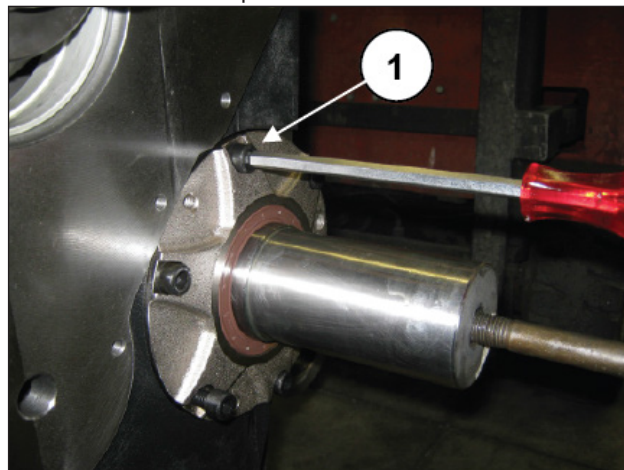
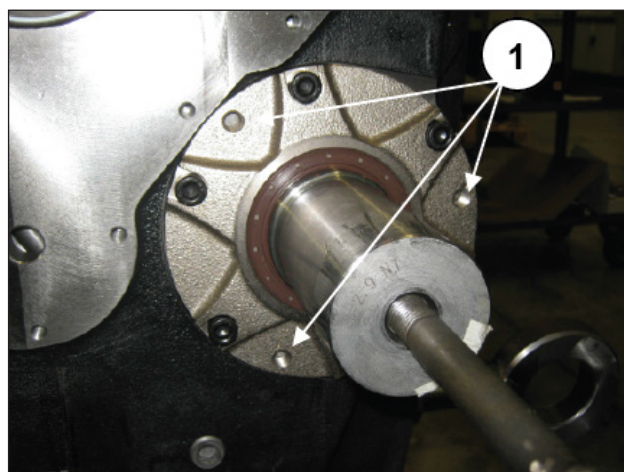

Fig. 9
Fig. 10
Unscrew the fixing screws of the left and right PTO bearing cover (pos. ①, Fig. 9) and withdraw two covers from the PTO shaft with relative seals. To facilitate the disassembly procedure use the holes M8 (pos. ①, Fig. 10) with the function of extractors or with slap hammer.